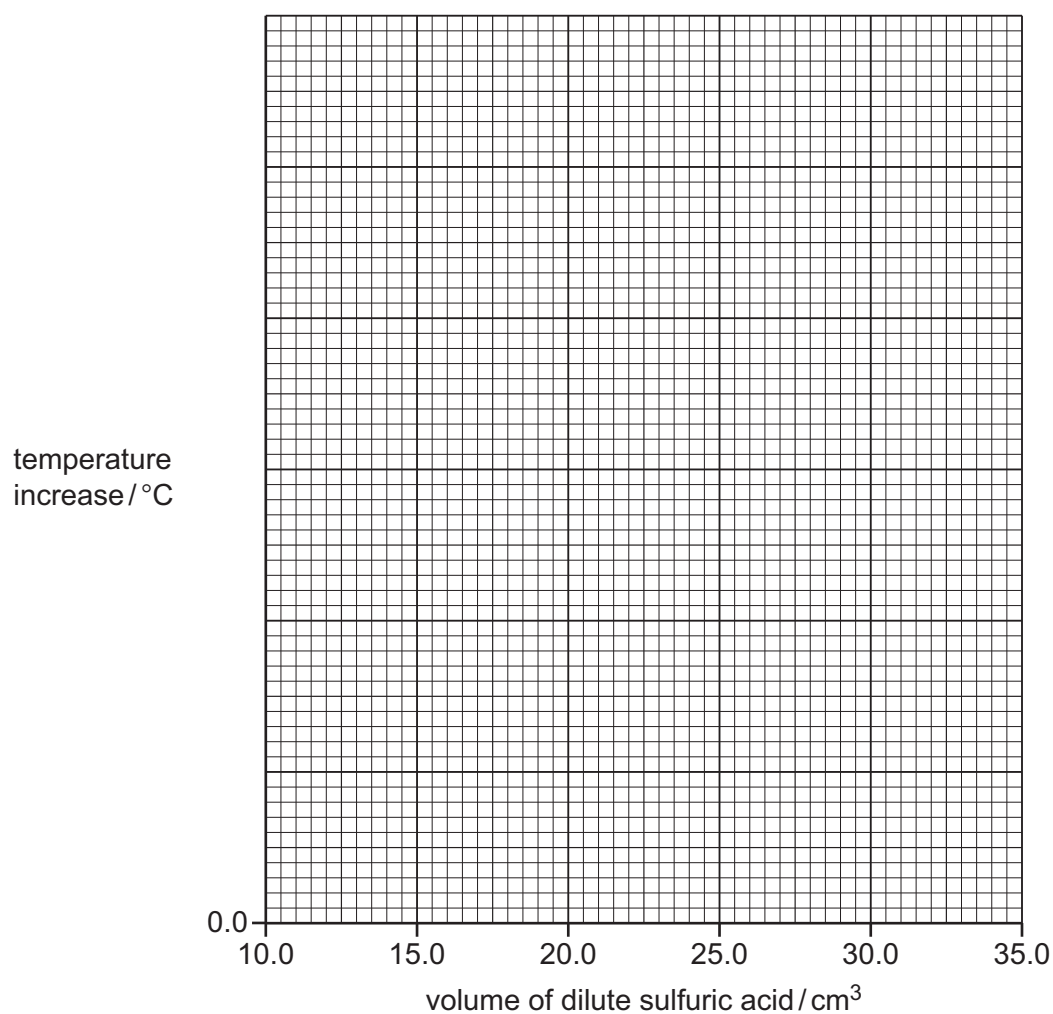

Fig. 1.1
(b) On Fig. 1.1, complete a suitable scale on the y-axis and plot your results from Experiments 1 to 5. Draw a line of best fit.
- (d) Extrapolate the line of best fit on your graph in Fig. 1.1 to deduce the temperature increase if  $33.0\text{ cm}^3$  of dilute sulfuric acid is used.
Show clearly on Fig. 1.1 how you worked out your answer.
On Fig. 1.1, sketch a line to show the results you would expect. Label this line **E**. [1]